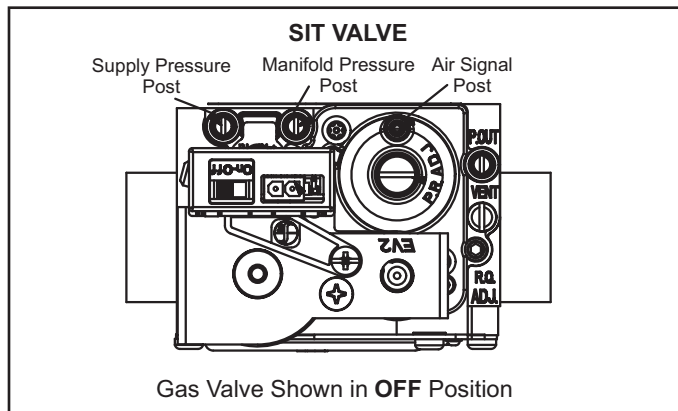
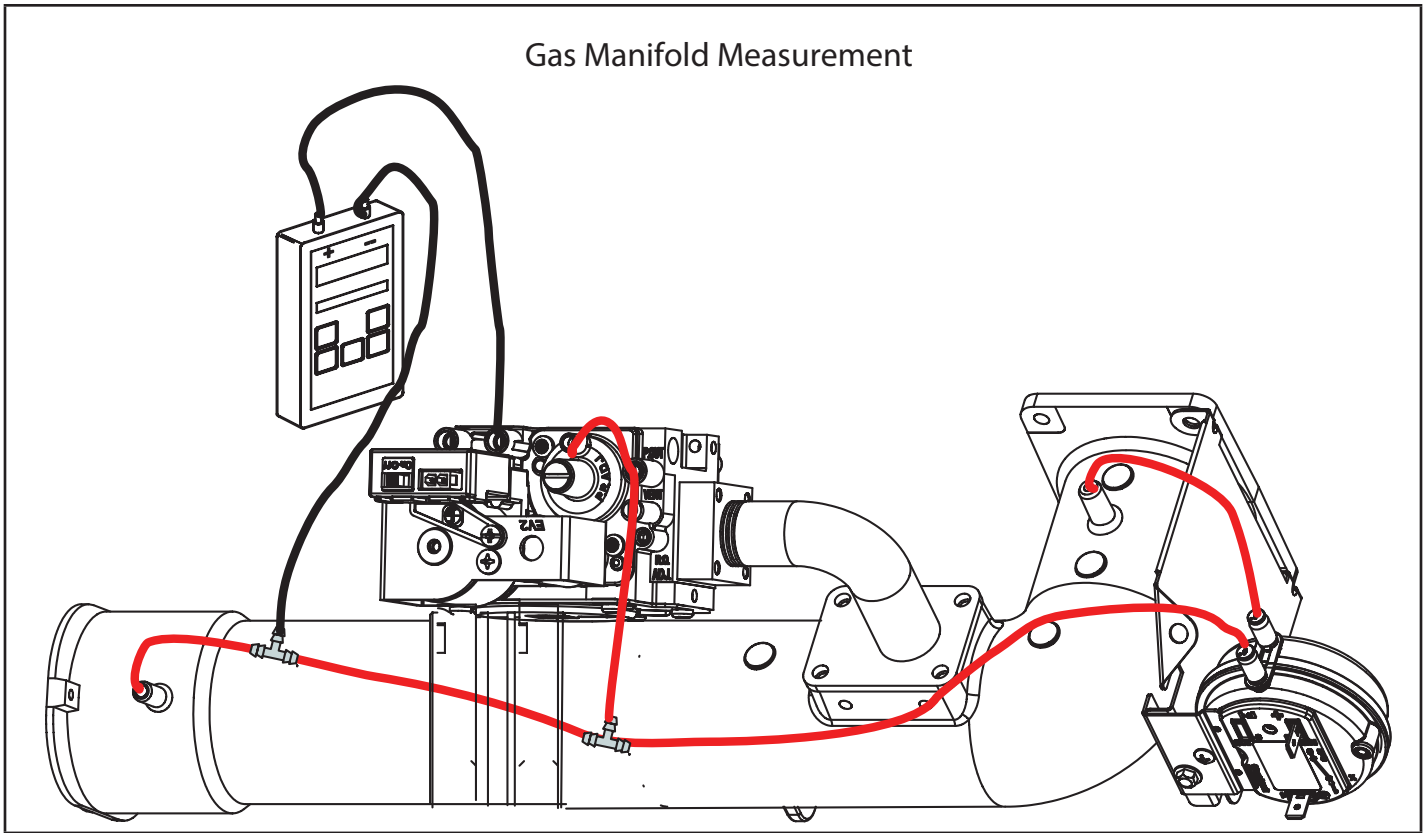

FIGURE 18
FIGURE 20
- 6 - Turn switch on gas valve to OFF. Do not force. See FIGURE 18.
- 8 - Move switch on gas valve to ON. Do not force. See FIGURE 18.
A port on the inlet side of the gas valve provides access to the supply pressure tap. See FIGURE 18. Loosen the screw and connect a manometer to measure supply pressure. *The minimum supply line pressure is 4.5" - 10.5"w.c. For natural and 11.0 - 13.0" wc for LP/Propane. Tighten after measurements have been taken.*
- 2 - Check the gas manifold pressure on the SIT gas valve by opening the manifold pressure post. See FIGURE 18. Using a 4.5-5 x 0.8 mm screw driver, loosen the slot headed brass sealing screws. The sealant screws can not be removed. Install hoses and meter as shown in FIGURE 20.